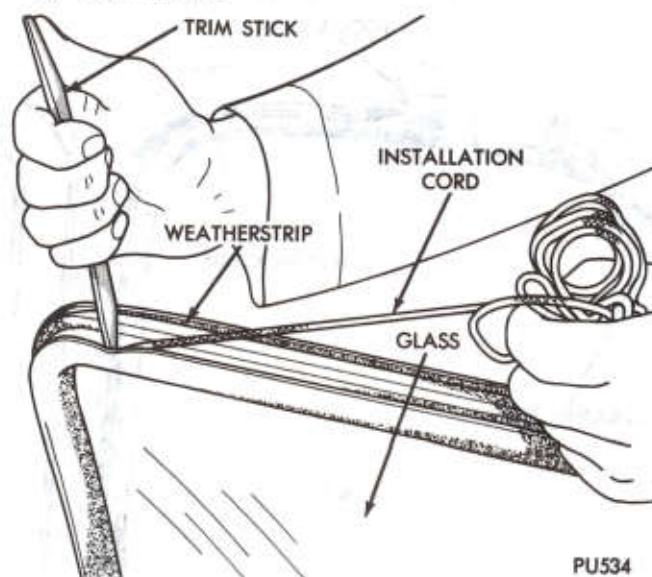

Fig. 7—Installation Cord
- (1) Install cord in weatherstrip retainer (Fig. 7).
- (2) Install glass and weatherstrip assembly to liftgate opening.
- (3) Install the assembly to the door frame by using an installation cord.
- (4) Clean glass.